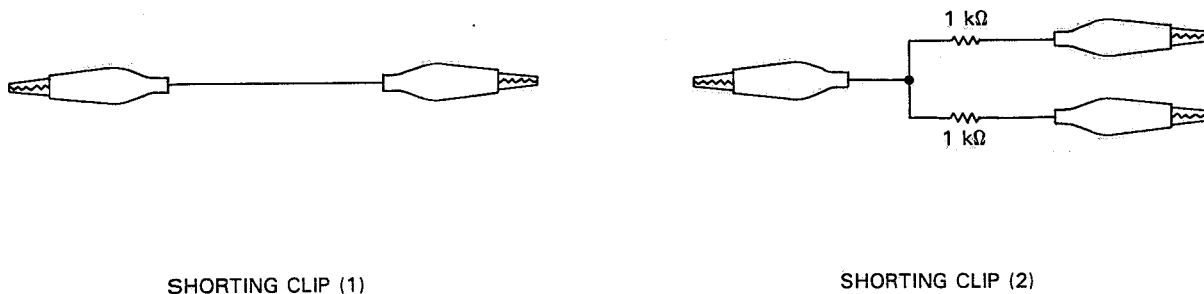

Fig. 3.5.1
Shorting Clip (1)	Jumper wire (Refer to Fig. 3.5.1)
Shorting Clip (2)	Jumper wire with 1 K Ω resistor (Refer to Fig. 3.5.1)
- a) Connect the Shorting Clip (1) between TP413 and TP415. (Refer to Fig. 3.5.1 and Fig. 3.5.5)
- b) Connect the Shorting Clip (2) between TP422, TP411 and TP412. (Refer to Fig. 3.5.1 and Fig. 3.5.5)